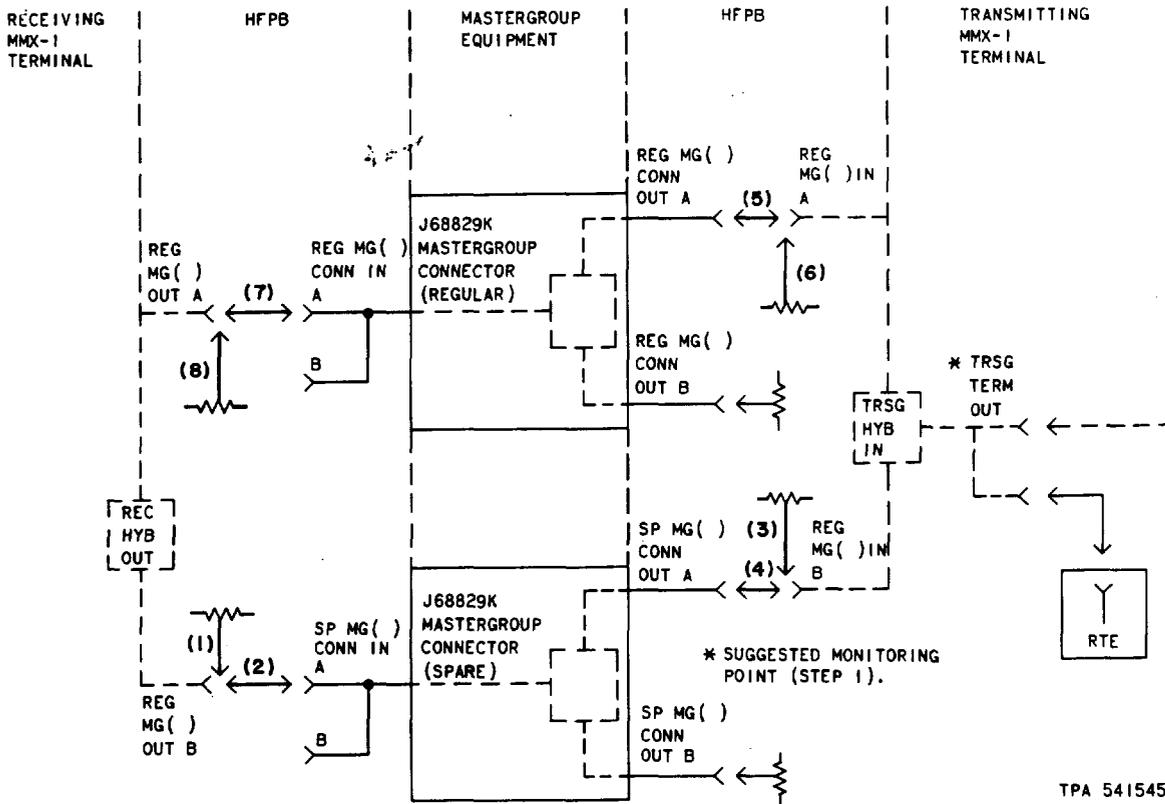

Fig. 1—Removing Regular Equipment From Service—Patching Procedure
5	<p>At the transmitting and receiving high-frequency patch bays (HFPPB), locate the jacks associated with the regular and spare equipment to be patched. At the receiving MG-HFPPB,</p> <ul style="list-style-type: none"> <li>(a) Remove the 358B plug (75-ohm termination) from the REG MG( ) OUT B jack [patch (1), Fig. 1].</li> <li>(b) Insert a 372A plug (through connection) into the REG MG( ) OUT B and SP MG( ) CONN IN A jacks [patch (2), Fig. 1].</li> </ul>
6	<p>At the transmitting MG-HFPPB,</p> <ul style="list-style-type: none"> <li>(a) Remove the 358B plug from the REG MG( ) IN B jack [patch (3), Fig. 1].</li> <li>(b) Insert a 372A plug into the REG MG( ) IN B and SP MG( ) CONN OUT A jacks [patch (4), Fig. 1].</li> </ul>
8	<p>At the transmitting MG-HFPPB,</p> <ul style="list-style-type: none"> <li>(a) Remove the 372A plug from the REG MG( ) IN A and REG MG( ) CONN OUT A jacks [patch (5), Fig. 1].</li> <li>(b) Insert a 358B plug into the REG MG( ) IN A jack [patch (6), Fig. 1].</li> </ul>
9	<p>At the receiving MG-HFPPB,</p> <ul style="list-style-type: none"> <li>(a) Remove the 372A plug from the REG MG( ) CONN IN A and REG MG( ) OUT A jacks [patch (7), Fig. 1].</li> <li>(b) Insert a 358B plug into the REG MG( ) OUT A jack [patch (8), Fig. 1].</li> </ul>